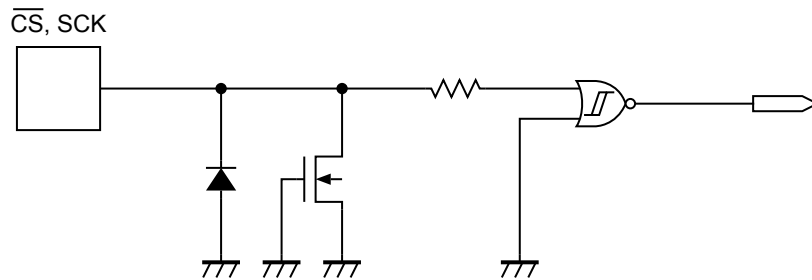

Figure 20  $\overline{\text{CS}}$ , SCK Pin
**Figure 20** and **21** show the equivalent circuits of input pins in the S-25C128A. A pull-up and pull-down elements are not included in each input pin, pay attention not to set it in the floating state when you design.